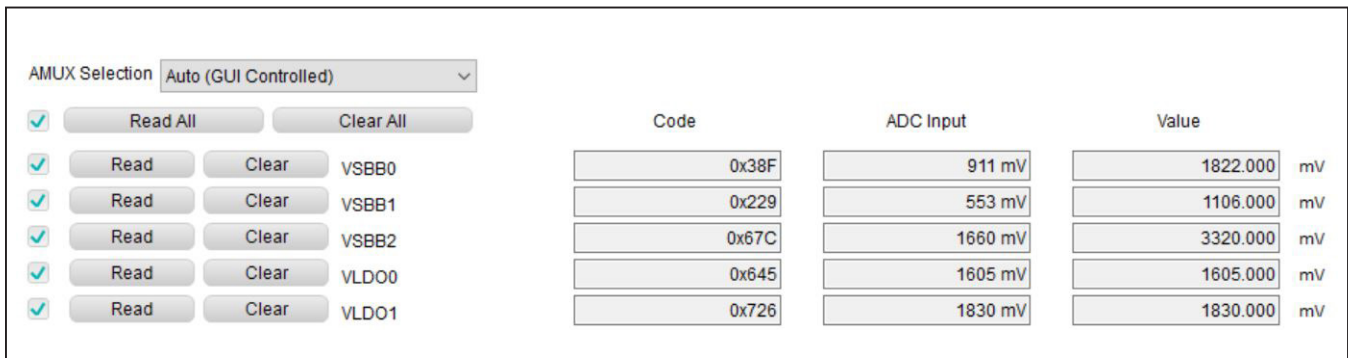

Figure 6. Quick Start: Regulator Check with the ADC
- 8) On the **ADC/AMUX** tab of the GUI, click the **Read** buttons next to VSBB0, VSBB1, VSBB2, VLDO0, and VLDO1. For the MAX77654M, 1.8V, 1.1V, 3.3V, 1.6V, and 1.8V should appear, respectively (Figure 6).